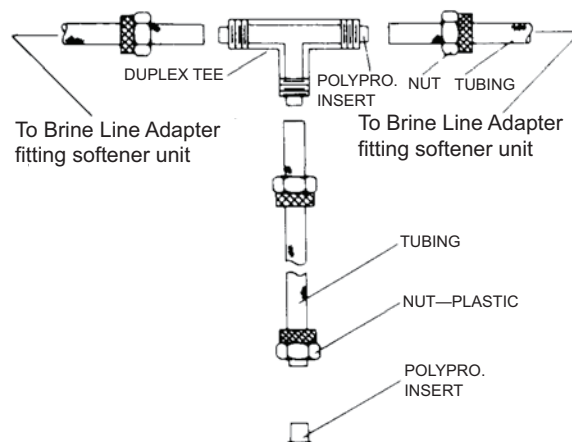

Figure 22. Brine system assembly.
1. Cut off approximately two inches of brine tubing, then attach the tubing to the brine safety valve. See Figure 22.